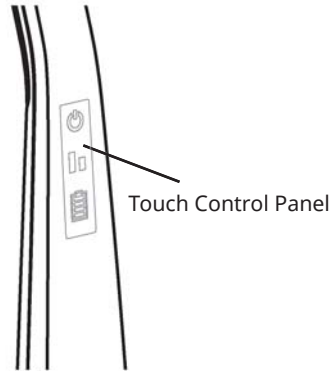

Fig.8
- The battery charge indicator will flash continuously until vacuum is fully charged. (Fig.8).